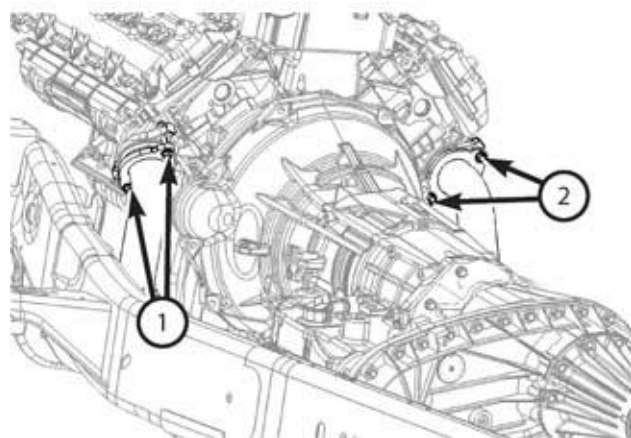

Figure 2 – Exhaust to Manifold Bolts
4. Saturate the bolts and nuts (1, 2) with Mopar® Rust Inhibitor. Allow for penetration while removing skid plates and oxygen sensors (Figure 2).
18. Remove and **DISCARD** the catalyst Y-pipe to manifold bolts and nuts (1, 2) (Figure 2).
21. Install and hand tighten the **NEW** flange bolts and nuts (1, 2) attaching the catalyst Y-pipe to the exhaust manifold (Figure 2).
24. Tighten the exhaust flange bolts (1, 2) to 30 N·m (22 ft. lbs.) (Figure 2).